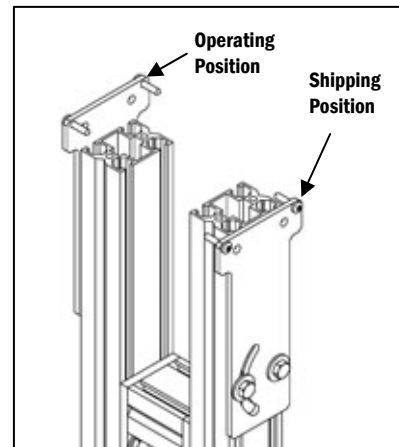

Figure 1
a. For shipment, the stands will have their mounting bracket slid down the extrusion. Use a 1/2" Wrench to loosen the Hex Head Screws holding the Brackets and move them up to engage the conveyor frame, approximately 1 1/2" (or more for flighted belts) (Figure 1).